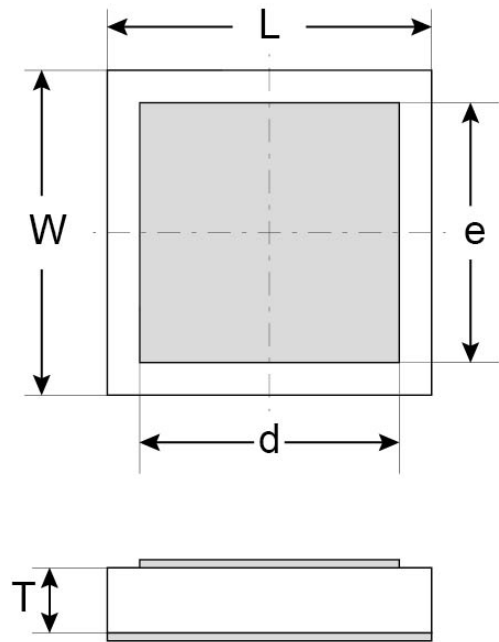

Figure 7 - Package outline drawing
(1) Other film frame carrier are possible on request
(2) Au = TiW/Au (0.3µm) / Au (3µm)
(3) Refer to Figure 7
(4) missing capacitors can reach 0.5%